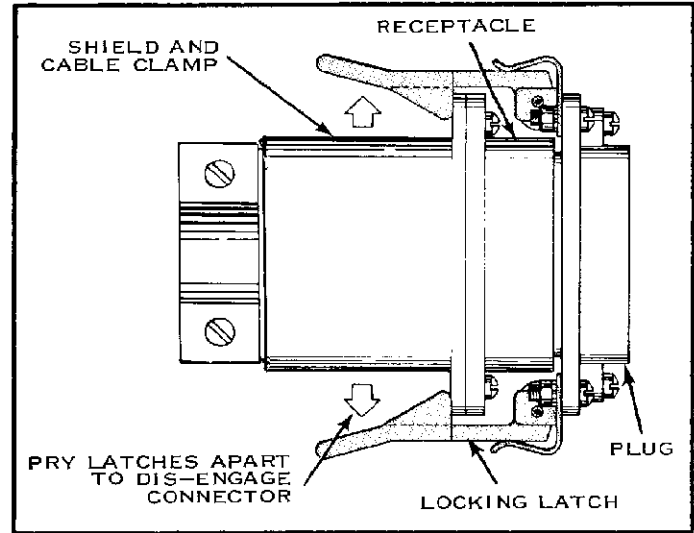

FIG. 2
- (b) To dis-engage Connector, pry Latches apart (see Figure 2) and pull Plug out of Receptacle.